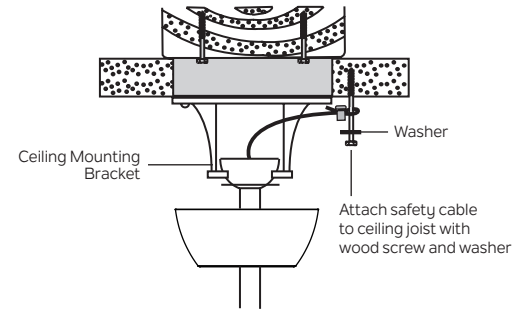

Fig. 11
Step 1. Slip the washer onto the wood screw. Attach the wood screw and washer to the ceiling joist next to the ceiling mounting bracket but do not tighten. **(Fig. 11)**